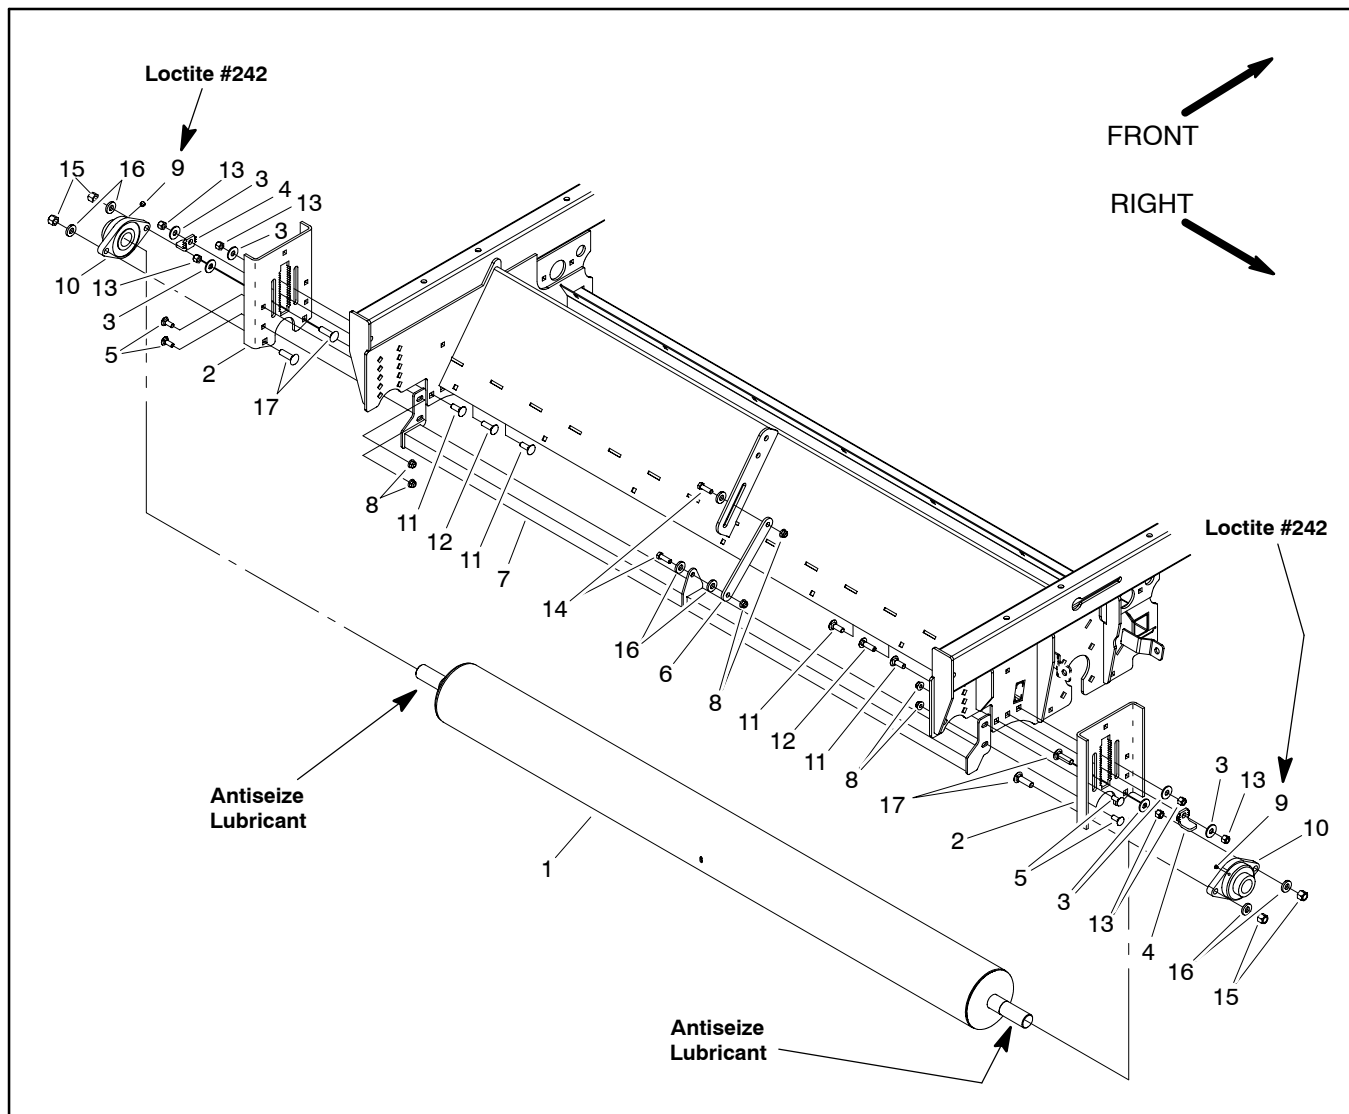

Figure 38
## Removal (Fig. 38)
## Installation (Fig. 38)
### Removal (Fig. 38)
2. On both sides of machine, remove two (2) cap screws and flange nuts that secure pivot (item 9) to machine frame. Slide pivot from rear cover subframe pivot.
3. On both sides of machine, remove two (2) cap screws, flat washers and flange nuts that secure rear cover subframe hoop (item 2) to machine frame.
4. Remove two (2) carriage screws and flange nuts that secure rear cover pivot components (items 10 and 14) to chopper housing.
6. Disassemble rear cover assembly as necessary using Figure 38 as a guide.
### Installation (Fig. 38)
1. Assemble rear cover using Figure 38 as a guide.